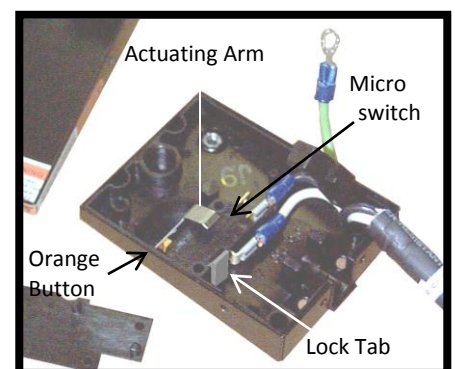

Figure 30: Micro switch Mounting
9. Hold the lock tab back (Figure 30) and remove the micro switch.
2. Push the lock tab back (Figure 30) and pull out the micro switch.
4. Two locating pegs on the floor of the R/L switch match two holes on the micro switch body. Snap the micro switch under the actuating arm (Figure 30) and engage the pegs into the holes so that the orange button faces the actuating arm. The lock tab should click into place to hold the micro switch securely.